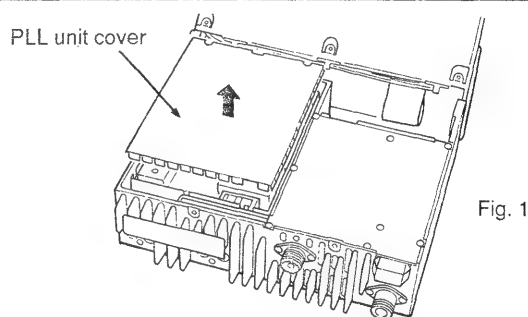

Fig. 1
- ① Remove both the top and bottom covers. (p. 44)
- ② Open the MAIN unit chassis. (p. 44)
- ③ Remove the shield cover from the PLL unit. (Fig 1)